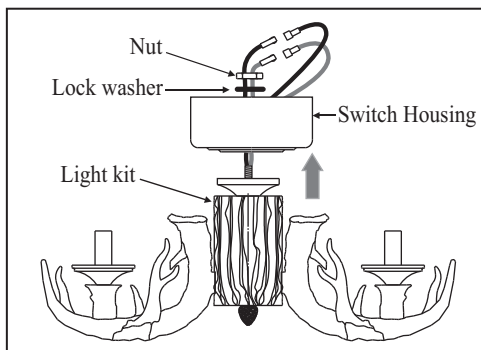

Figure 17
1. Attach the light kit to the switch housing by feeding the light kit wires (black and white) through the hole of switch housing and then screw it onto the switch housing by nut & lock washer. Be sure it is tight enough to prevent light kit from vibrating loose. (Fig. 17)